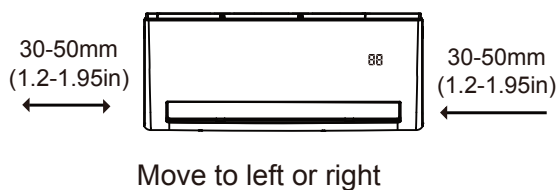

Fig. 3.4
1. Keep in mind that the hooks on the mounting plate are smaller than the holes on the back of the unit. If you find that you don't have ample room to connect embedded pipes to the indoor unit, the unit can be adjusted left or right by about 30-50mm (1.25-1.95in), depending on the model. (See Fig.3.4)